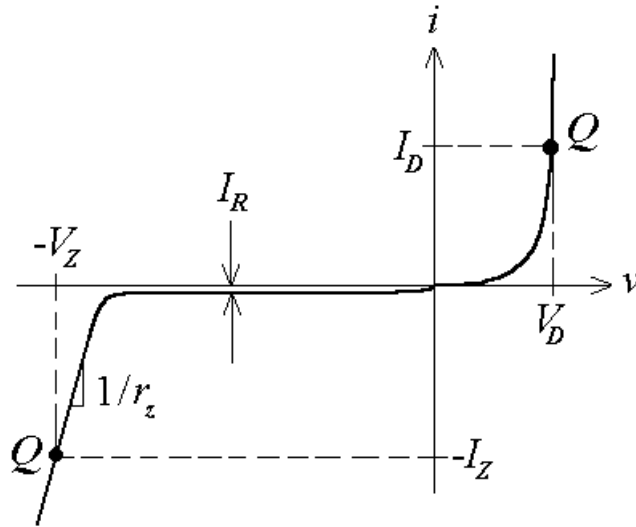
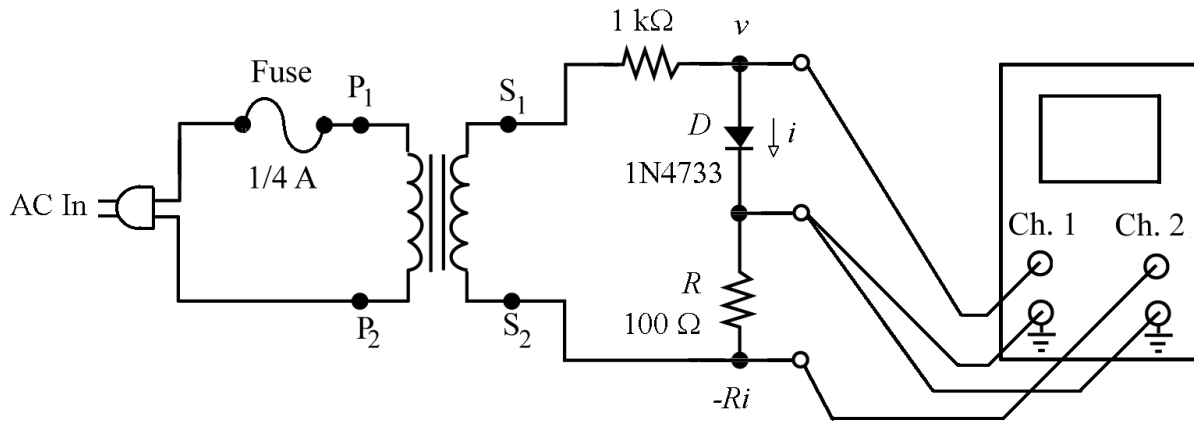

Fig. 1 - The complete i - v characteristic of a pn junction diode.
Fig. 4 – Displaying the *diode curve* with an oscilloscope operating in the x - y mode. (Note: Ch. 2 must be set in the *Invert Mode*.)
As the reverse bias voltage is increased further, a point is reached, called the *breakdown voltage* (BV), at which the reverse current shoots up in magnitude from the negligible value I_R just discussed to substantially higher values. The name stems from the fact that the i - v curve bends, or breaks down. This does not necessarily imply a destructive process – in fact, one always limits the reverse current within safety levels by interposing a suitable resistor in *series* between the driving voltage source and the reverse-biased pn junction. Figure 1 shows the complete i - v characteristic of a typical pn junction.
Figure 4 shows a simple arrangement to visualize the complete i - v curve of a diode on the oscilloscope. The function of the transformer is to provide a *repetitive* voltage drive, with the 1-k Ω series resistor providing a current-limiting function for the diode. In order to convert the current waveform to a voltage waveform for the oscilloscope, we sense i with the small ($R = 100 \Omega$) series resistor shown. The oscilloscope is operated in the x - y mode, with the diode voltage v going to Ch. 1, and the voltage $-Ri$,
MC1: With power off, assemble the circuit of Fig. 4. Also, configure the oscilloscope for x - y operation (X-Y mode), with Ch. 2 in the *Invert Mode*. Adjust the position of the beam (dot) so that it is *right at the center* of the screen. Next, apply power, and play with the channel sensitivities until you obtain a curve of the type of Fig. 1. Hence, use this curve for a *first estimate* of $V_{D(\text{on})}$, V_{Z0} , and r_z for this particular diode sample.